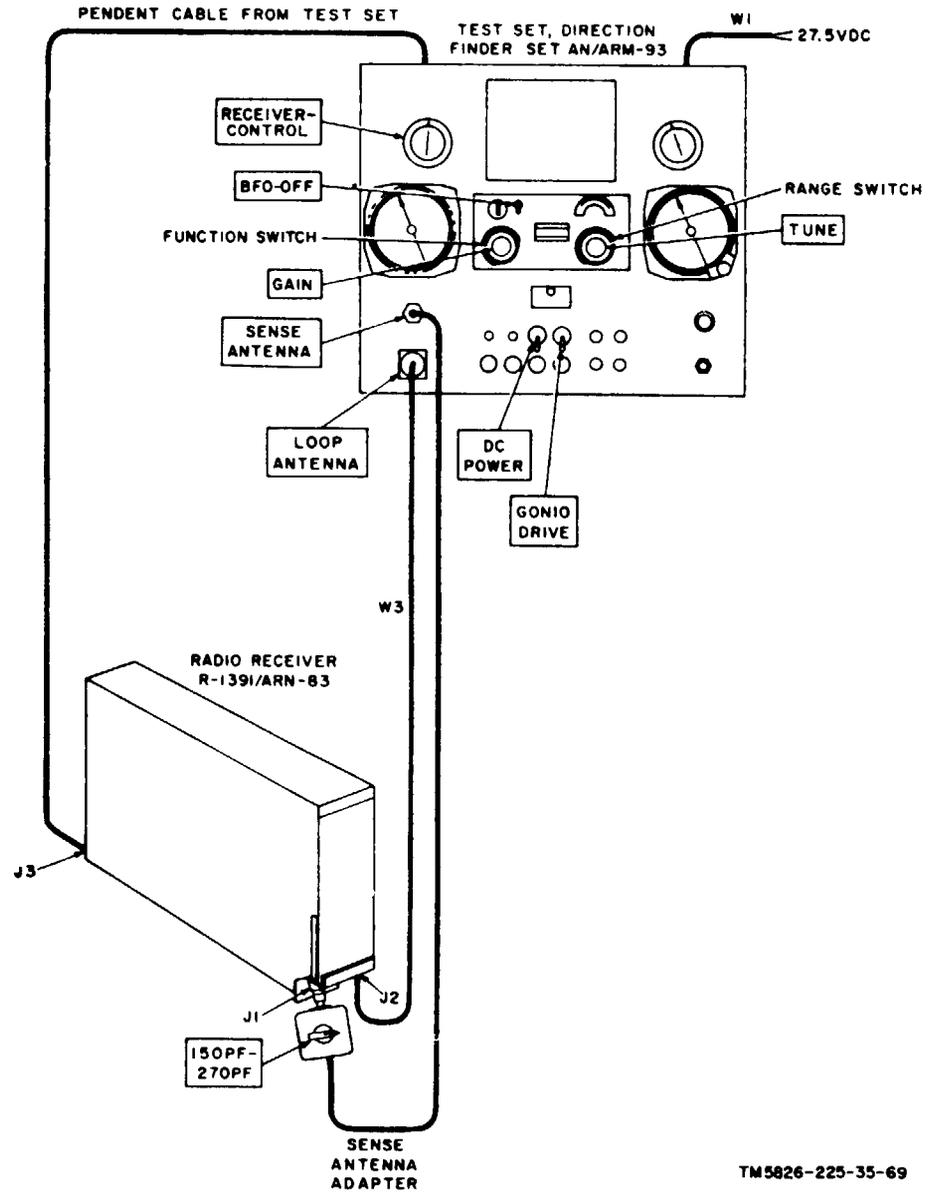

Figure 4-6. Receiver tuning and switching time test.
- (1) Test Set, Direction Finder Set AN/ARM-93.
- (2) Stopwatch.
*b. Test Connections and Conditions.* Connect the test equipment as shown in figure 4-6.